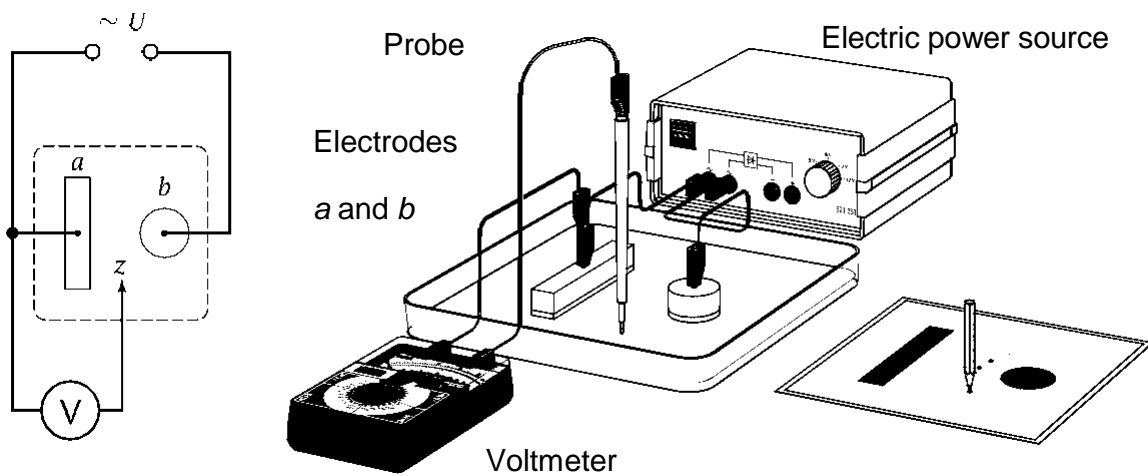

Figure 421.1. Experimental setup
1. Place one pair of electrodes **a** and **b** (as specified by the teacher) in the tank. Assemble the circuit as shown in Fig. 421.1. Use the AC output of the power source, not the DC! Set the limits of measurement 10 V in the AC mode on the voltmeter.